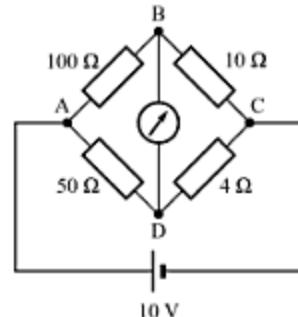

Fig. 4.51
21. A Wheatstone bridge is shown in Fig. 4.51. The galvanometer connected across B-D has a resistance of 20Ω . Using Thevenin's theorem, compute the current through this galvanometer. [Ans. 5.12 mA]